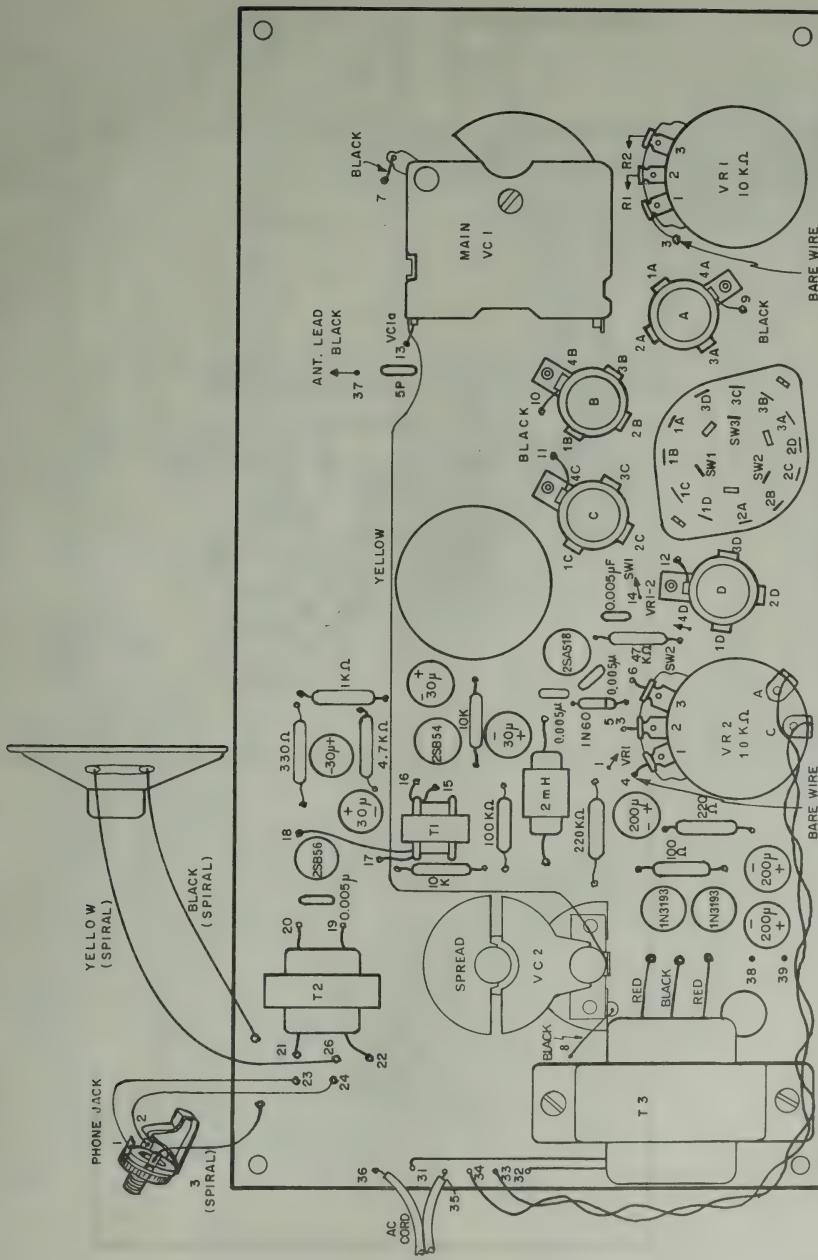

Figure 6 Printed Circuit Board Wiring Diagram
16. () Mount transistor Q1 (Type 2SA518). This transistor has three leads as shown in the diagram on page 5. Check the position of this lead on Figures 6 and 7.